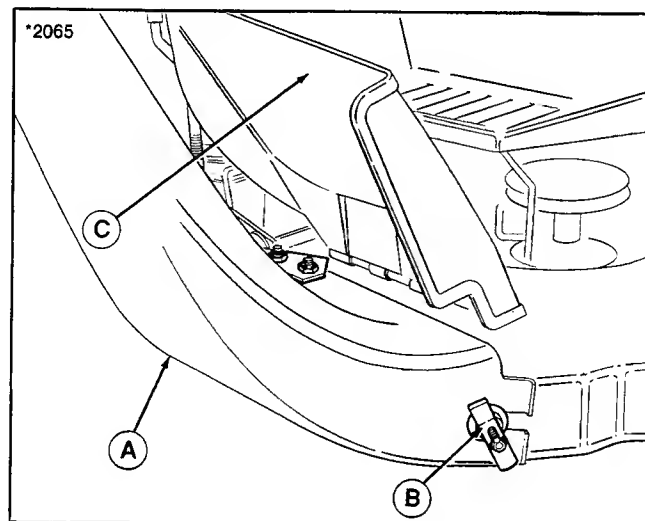

Figure 4.
3. Lift the deflector up and install the adaptor (A, figure 4) to mower deck by hooking bracket over deflector support rod in rear and positioning front adaptor slot (D) under wing nut (B). Secure by tightening wing nut. Make sure that bottom of adaptor is below stone guard.